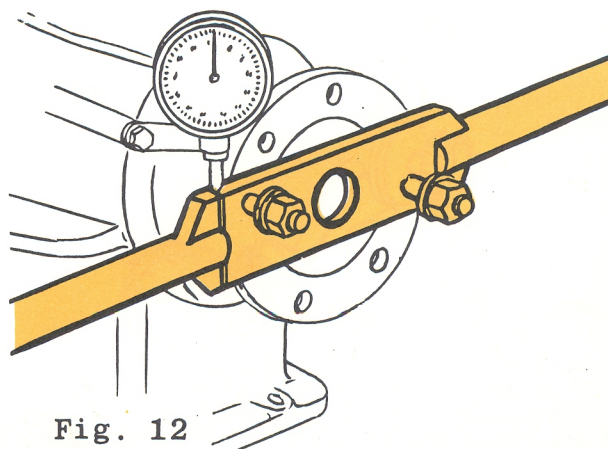

Fig. 12
- 13 Have the stylus of a dial gauge, previously mounted to a magnetic support, resting on the edge of the plate of tool C.5.0100 at the reference slot (see fig.12) and pre-set the gauge needle to about one millimetre.